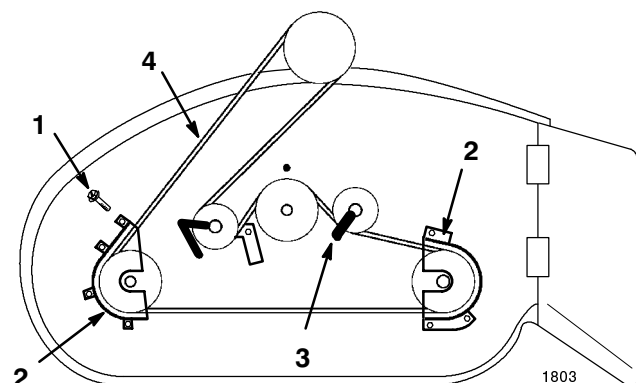

Figure 50
2. Remove the pulley cover mounting screws and pulley covers from blade pulleys (Fig. 50).
3. Loosen idler pulley mounting bolts to move belt guides (Fig. 50).
4. Remove the belt from the pulleys (Fig. 50).
2. Adjust belt guide on idler pulley as shown and tighten mounting bolt (Fig. 50).
3. Install the left and right pulley covers with the mounting screws (Fig. 50).